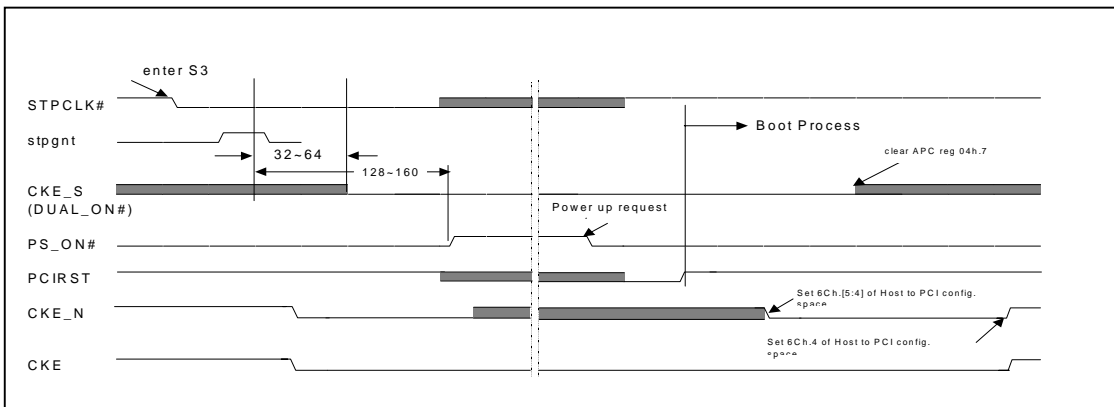

Figure 3.2-4 NB/5595's Timing Diagram in S3 State
- 3) Having intercepted the Stop_Grant special cycle on the PCI bus, the SiS5595 will enable and drive CKE_S low in 32us to 64 us, and then negate PS_ON# in another 128us to 160us later. Figure 3.2-4 NB/5595's Timing Diagram in S3 State is the timing diagram showing the sequence happening on the SiS5595 while entering/exiting S3 state.